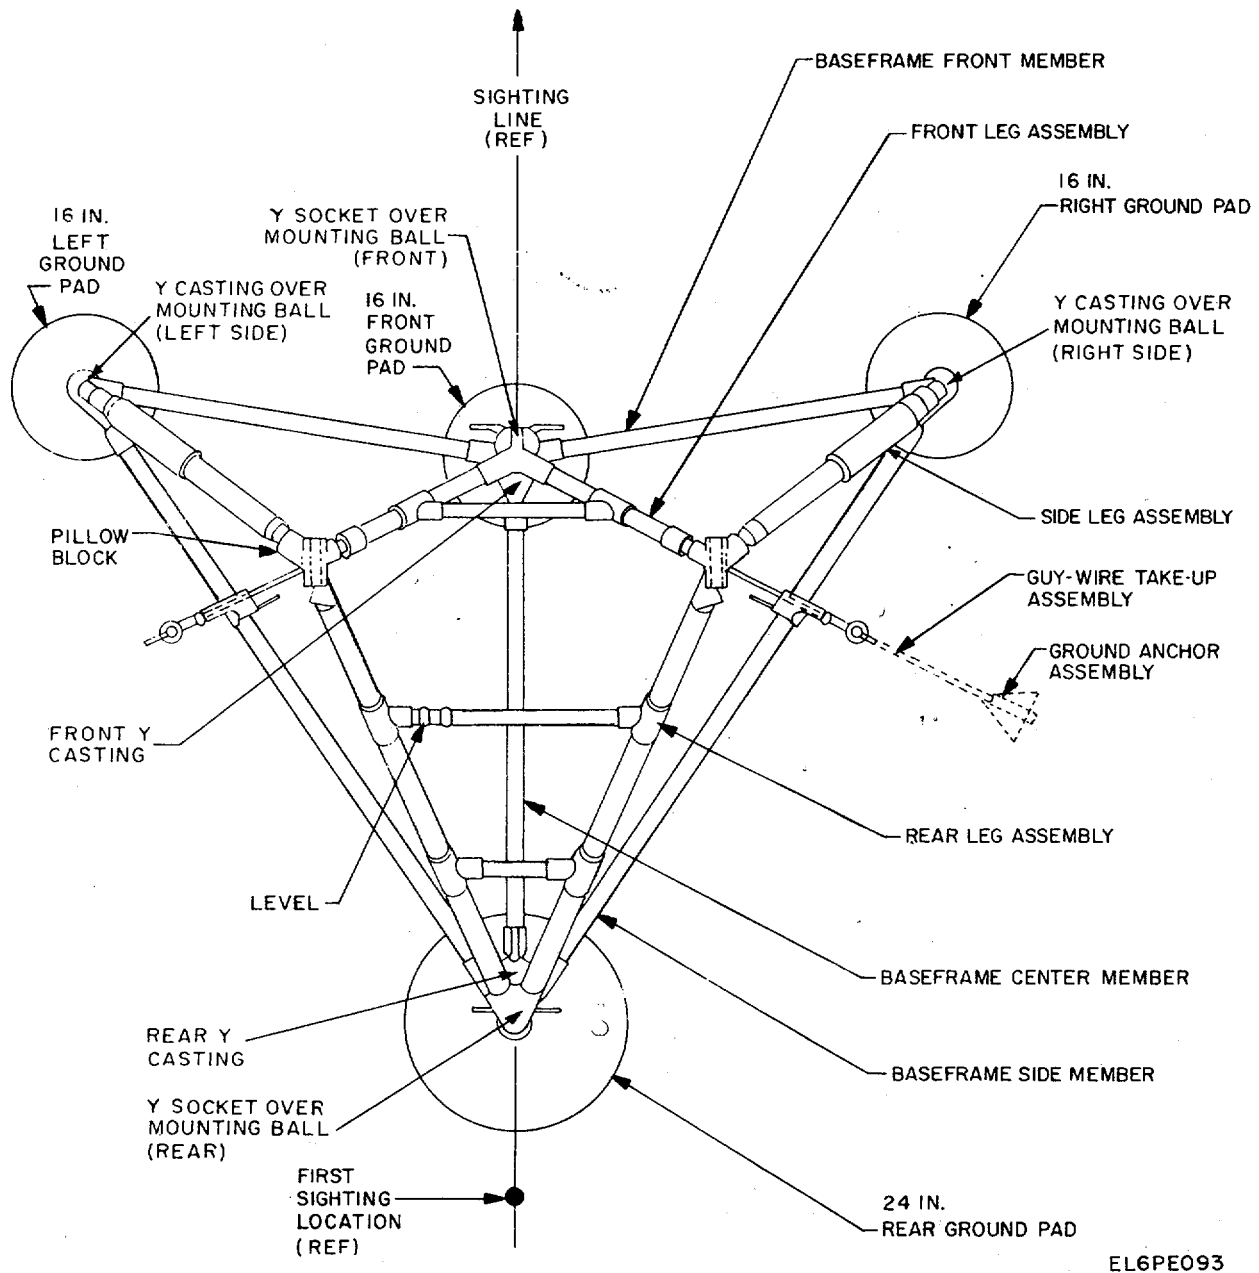
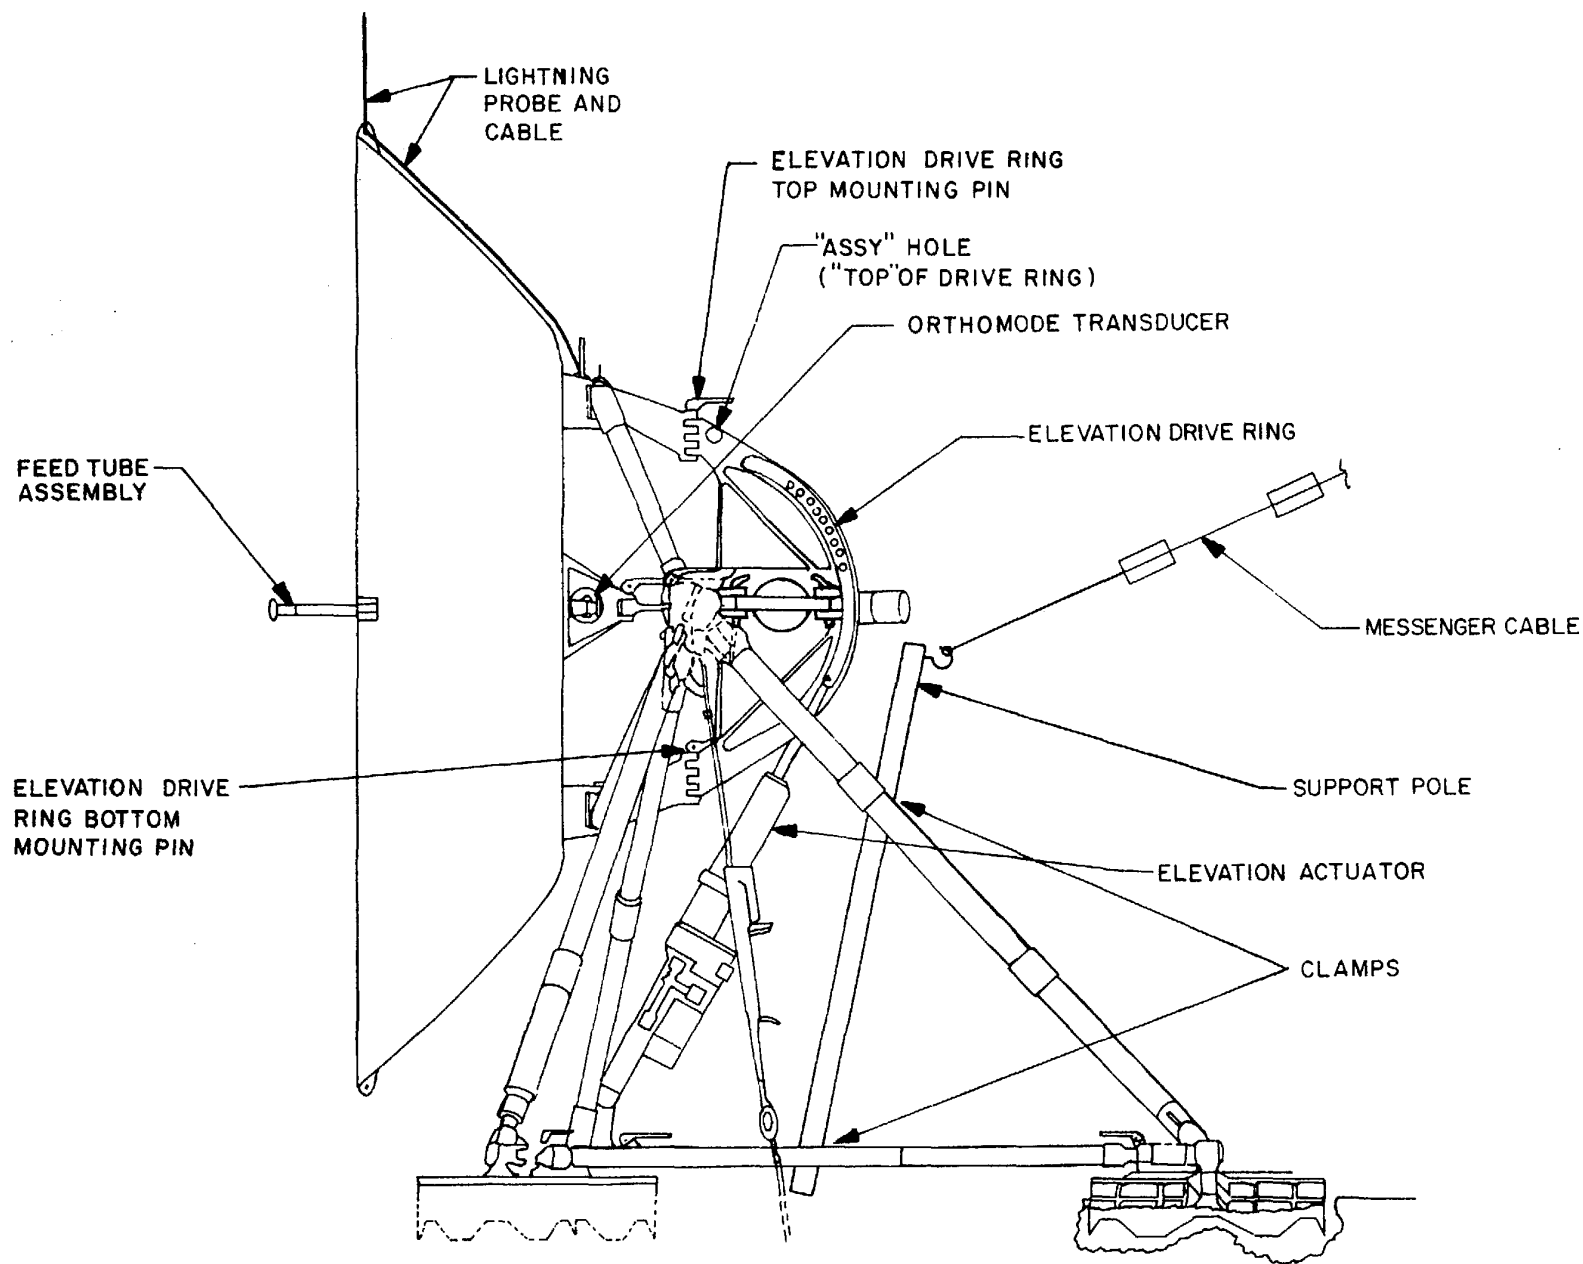
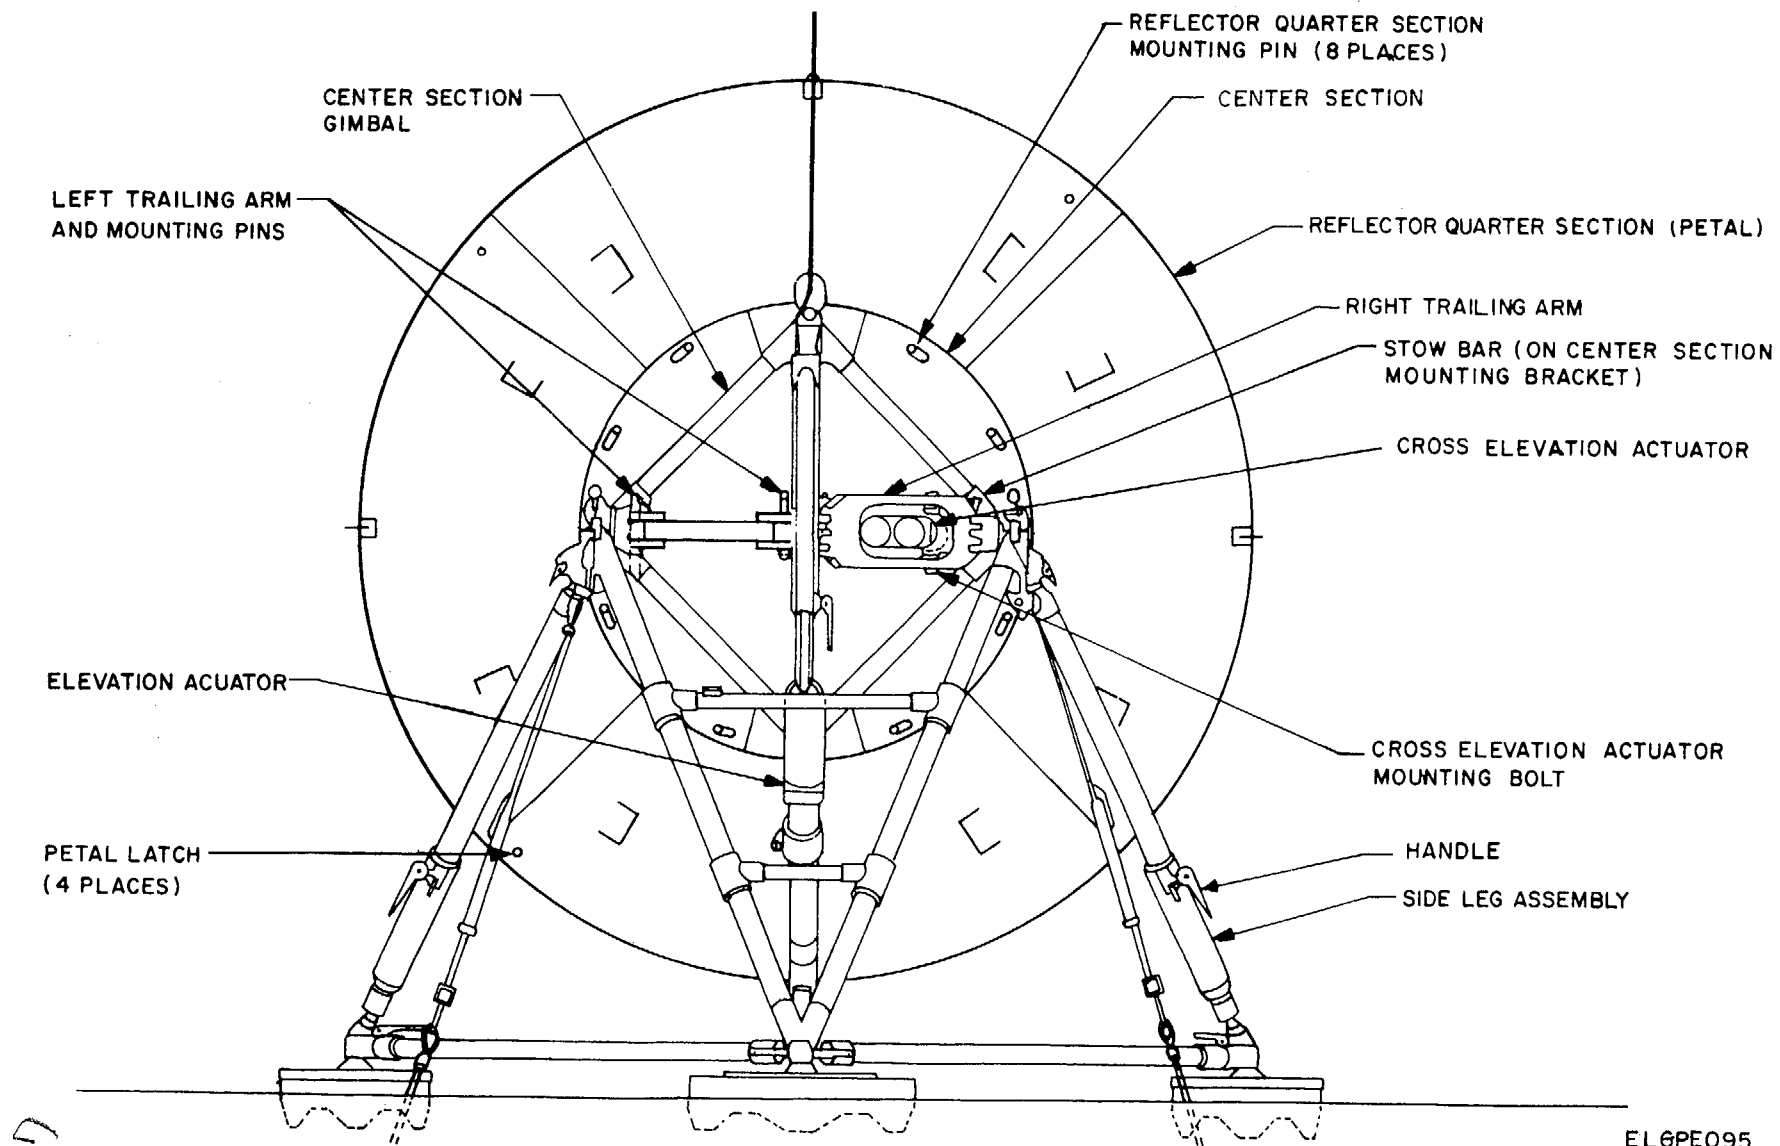

Figure 2-7. Assembled Antenna Support Structure, Plan View.
Figure 2-8. Assembled Antenna. Left Side View.
Figure 2-9. Assembled Antenna, Rear View.
- (1) Place the 24-inch rear ground pad about 1 foot (0.3m) in front of the first sighting point and centered along the sighting line.
- (2) Place the 16-inch front ground pad at a position along the sighting line approximately 4 feet (1.2m) in front of the 24-inch rear ground pad.
- (3) Place the two 16-inch side ground pads approximately 3 1/2 feet (1.07m) to either side and slightly forward of the 16-inch front ground pad.
- b. Installation of Front and Rear Leg Assemblies (fig. 2-7).
c. *Installation of Base Frame Members.* (fig. 2-7).
(1) Mate the center base frame member with the rear Y casting and insert the assembly pin.
d. Installation of Side Leg Assemblies (fig. 2-7).
(1) Release the clamp-type handle on one of the side leg assemblies (fig. 2-9). This will allow the leg to be extended or retracted.
(2) Attach the leg to the ball joint on the left pillow block and the left side ground pad Y casting. Orient the leg with the handle section upward toward the pillow block.
(3) Observe the level (fig. 2-7) on the rear leg assembly upper cross member and move the leg in and out until a level indication is obtained.
(2) Unlock and open the pillow blocks on the antenna support structure (fig. 2-7). Unlock and open the pillow blocks on the carriage assembly (fig. 2-5, sheet 1). Release and remove the two quick-release pins at the bottom of the center section on the base of the carriage assembly.
(3) Carefully lift the center section from the carriage assembly and set it into the position on the antenna support structure pillow blocks.
(4) Allow the center section to rotate downward and come to rest on the leg assembly.
(5) Close and lock the pillow blocks on the antenna support structure.
(7) Remove the support handles from the center section and then pin the extender handles in a closed position.
(8) Remove the carriage assembly from the installation area. (Unstow the feed tube only when it is ready to be installed.) (9) On the center section gimbal loosen the straps which secure the mounted electronics cables. Uncoil these cables and dress them over the upper cross member of the rear leg assembly (but not on the level glass).
(10) As much as possible, dress the cables toward the left side of the cross member so that they will break out to the left of the drive ring after is installed.
f. Installation of Elevation Drive Ring and Actuators (fig. 2-8 and 2-9).
(1) Unlock and remove the two mounting pins which will be used to mount the elevation drive ring. These pins are located top and bottom of the center section mounting frame (fig. 2-8).
(2) Place the elevation drive ring in place in the mounting and insert the mounting pins. The elevation drive ring is installed with the ASSY hole at the top.
(3) Remove the two mounting pins which will secure the left trailing arm between the elevation drive ring and the center section gimbal left elevation axis (fig. 2-9).
(4) Place the left trailing arm in position to connect the center section gimbal and the elevation drive ring. Insert the two mounting pins. Do not lock the pins.
(5) Release and remove the stow bar pin which holds the stow bar between the center section and right pillow block. Stow the bar on the center section and replace the stow bar pin (fig. 2-9).
(6) Lift the cross elevation actuator (with attached trailing arm) into position between the drive ring and right pillow block. Insert two mounting pins in the drive ring and pillow block mounting brackets.
g. Installation of Reflector Quarter Sections and Feed Tube Assembly (fig. 2-8 and 2-9).
(1) Remove the mounting pins (8) around the rim of the center section (fig. 2-9).
(2) Place the upper quarter section in place and insert and lock the two mounting pins.
(3) Place the right quarter section in place and insert and lock the two mounting pins.
(4) Place the left quarter section in place and insert and lock the two mounting pins.
(5) Place the lower quarter section in place and insert and lock the two mounting pins.